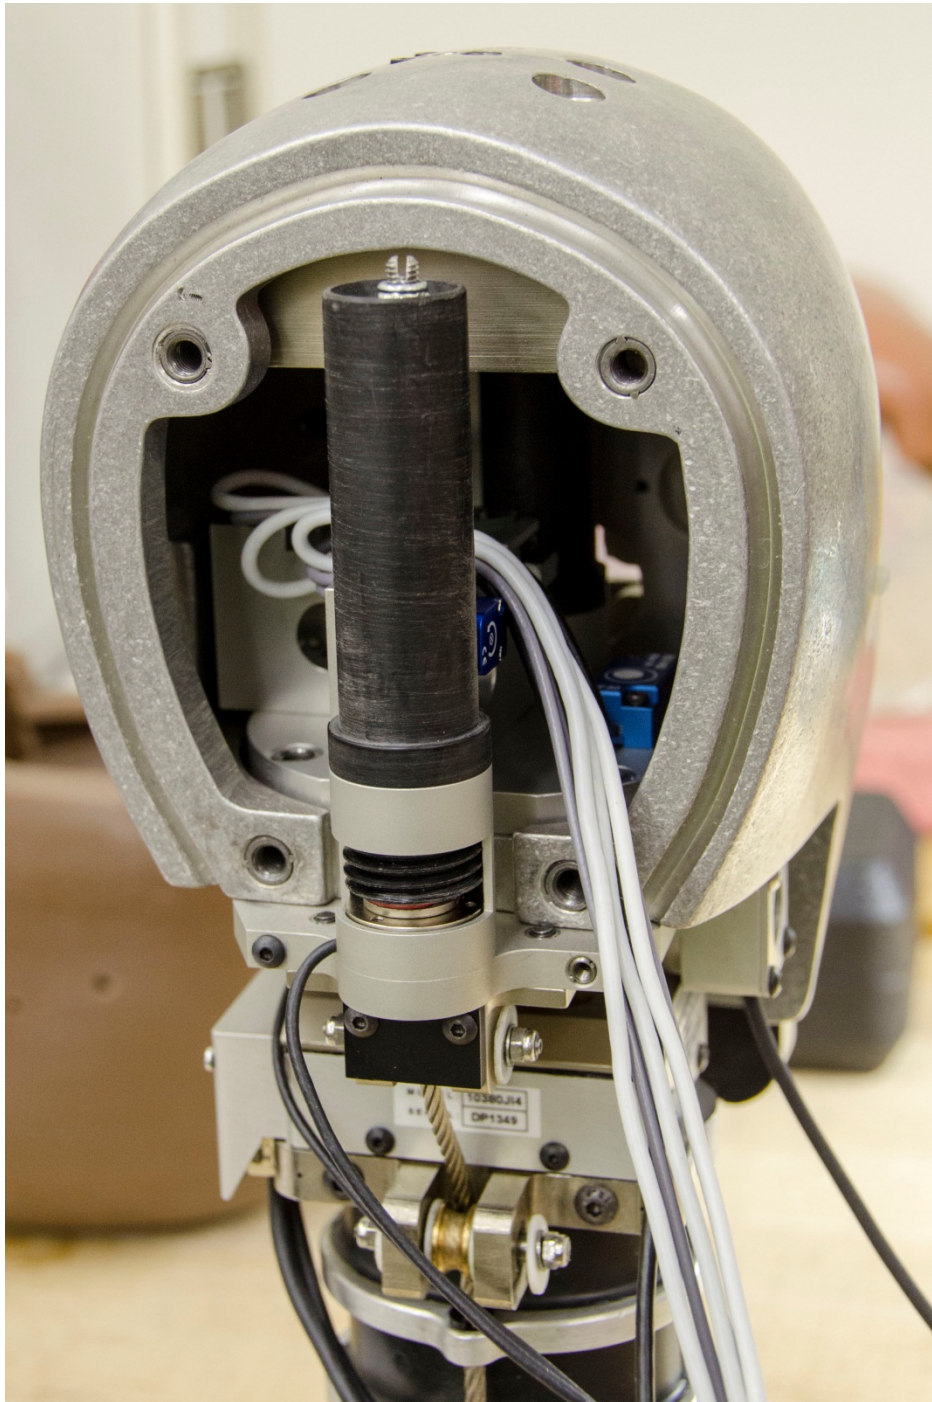

Figure 15-13. Install rear neck cable/spring assembly
15.4.1.3 Install the head instrumentation into the head. Next, install the rear neck cable/spring assembly (Figure 15-13). Place the internal instrumentation wires from the head to the dummy's right, behind the spring tower.